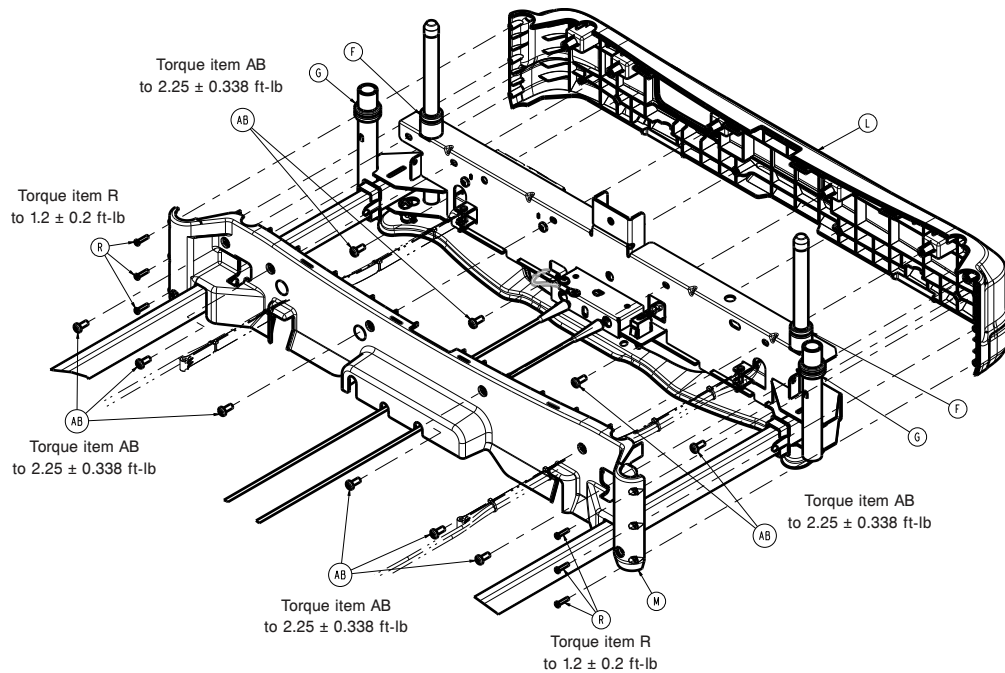

Figure 16 – Replacing the cover
6. Using a T15 Torx driver, remove the six outer screws (R) that secure the front cover (L) to the rear cover (M) (Figure 16). Save the screws.
7. Using a T30 Torx driver, remove the six screws (AB) that secure the front cover to the rear cover (M) (Figure 16). Save the screws.
9. Using a T30 Torx driver with a ratchet and 3" extension, remove the four screws (AB) that secure the front cover to the extender frame (Figure 16). Remove and discard the front cover.
- Using a T15 Torx driver, remove the six outer screws (R) that secure the front cover (L) to the rear cover (M) (Figure 16). Save the screws.
- Using a T30 Torx driver, remove the six screws (AB) that secure the front cover to the rear cover (M) (Figure 16). Save the screws.